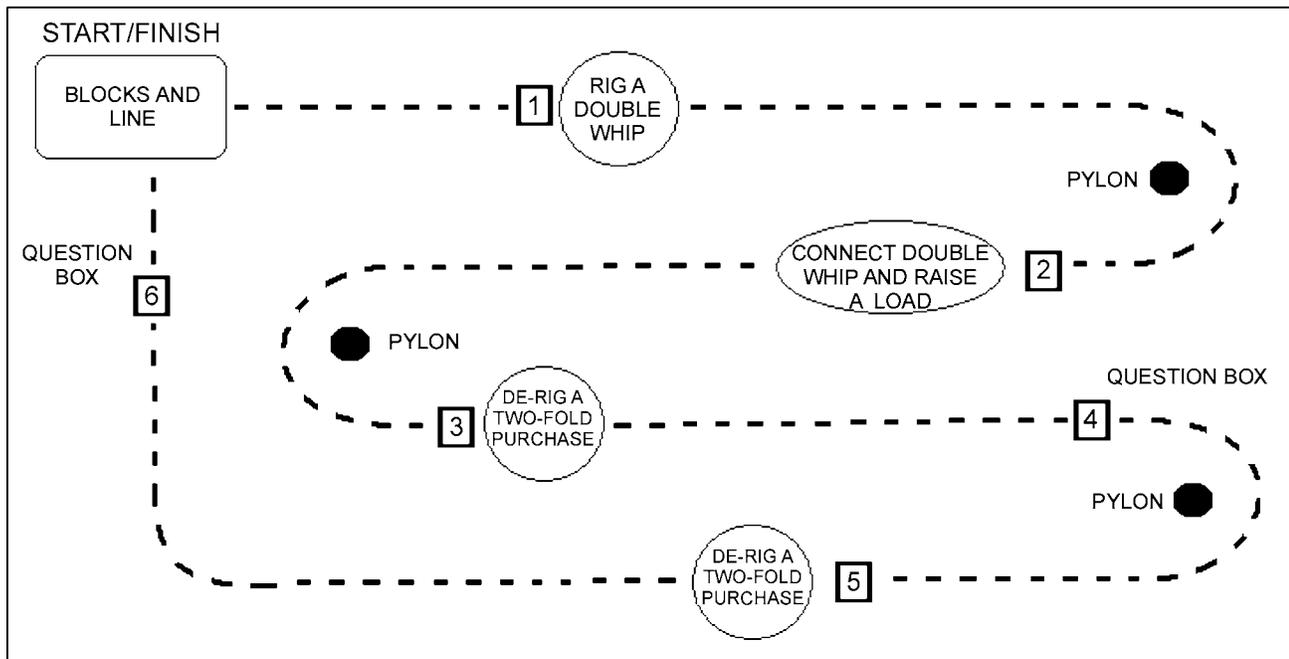

Figure 5 Tackle Run
- Set-up the pylons as illustrated in Figure 5.